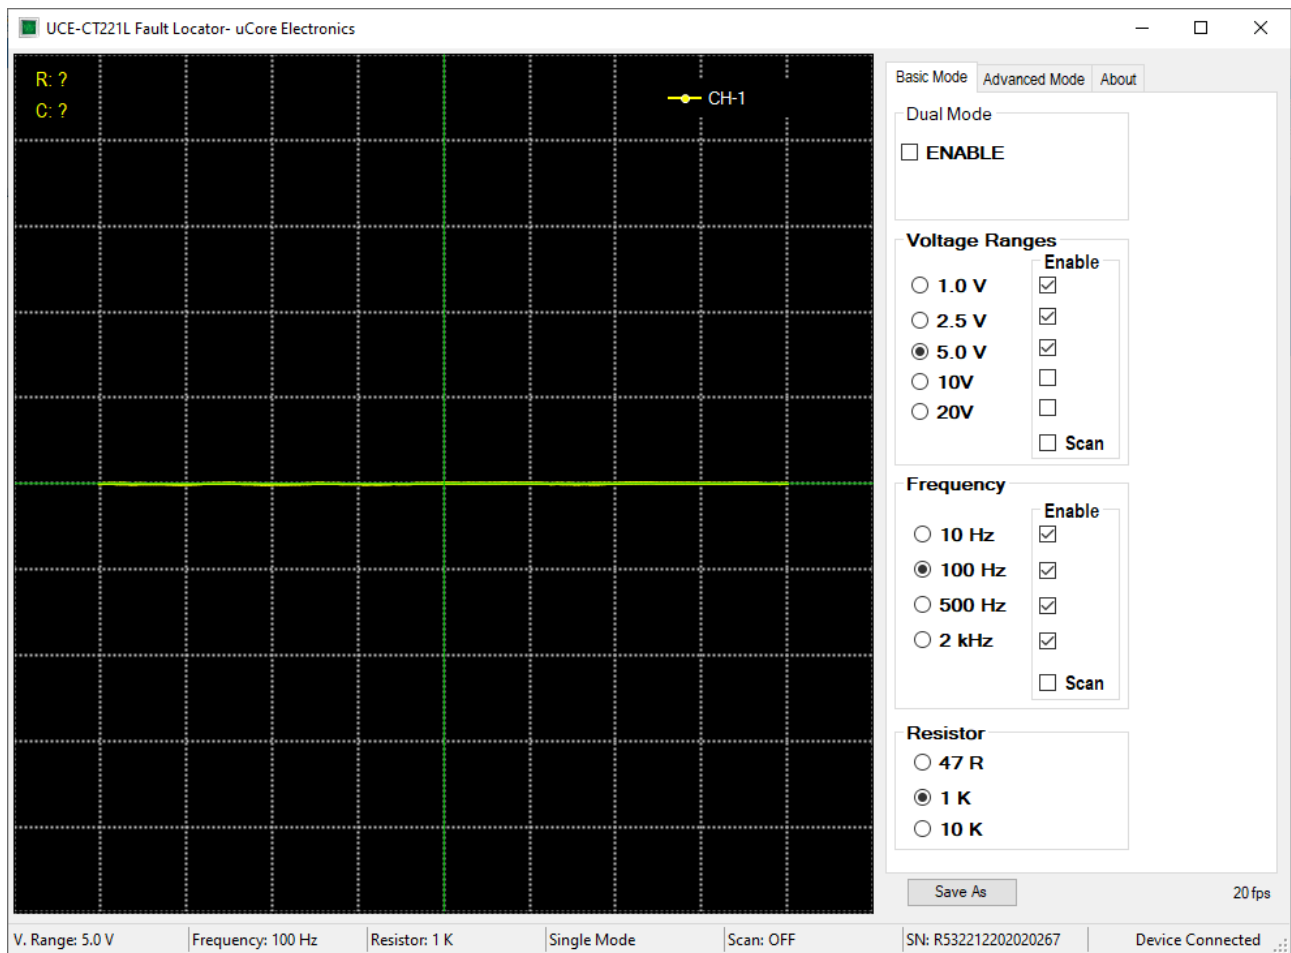

Figure 26. Overview of PC program (Basic Mode)
The general view of the PC program is as in figure 26. The screen consists of two parts. On the left side is the V-I impedance curve and on the right side there is the menu area. The menu area consists of three tabs:
**Basic Mode:** It is the menu where basic settings such as test voltages, test frequencies and source resistance are made. In addition, voltage scanning mode and dual channel operating mode settings are also made in this menu (Figure 26).